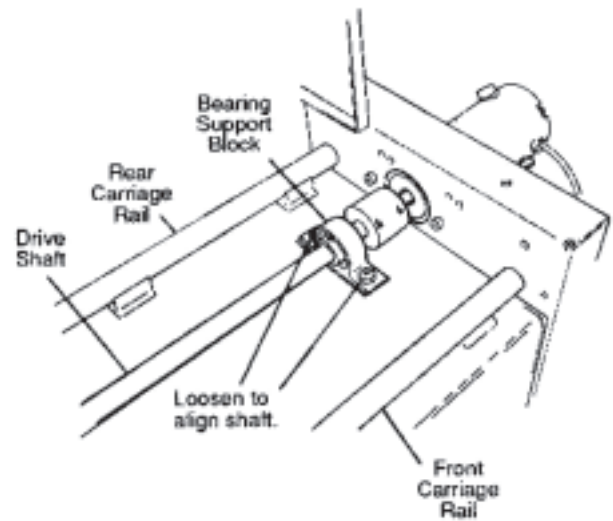

FIG. 28
1. Loosen the two bolts holding the bearing support blocks at each end of the drive shaft. FIG. 28.